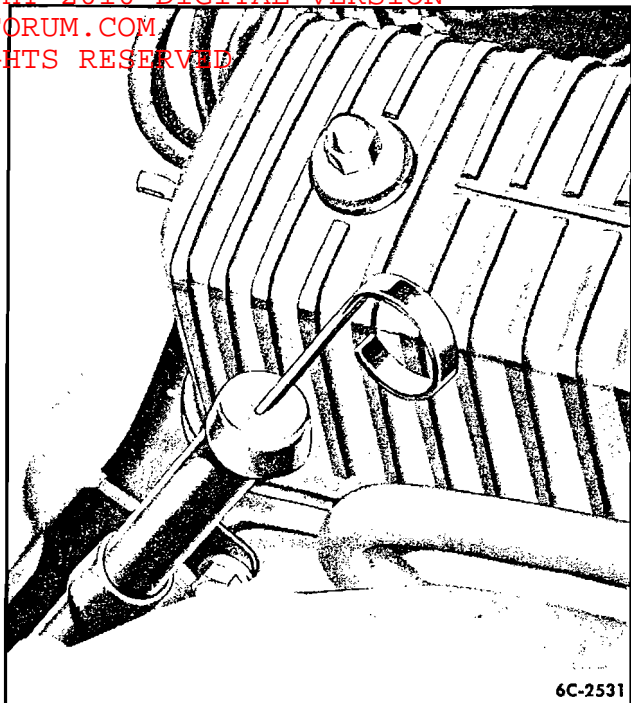

Fig. 9—Transmission Oil Level Indicator and Filler Tube
- c. Raise the hood and wipe top of fluid level indicator. See figure 9.